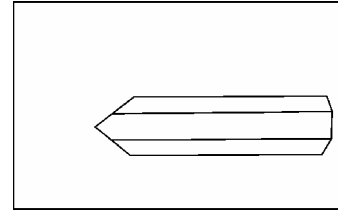

Figure 4.2
- Use an anvil and a hammer to taper the heated end of the rod. The taper should begin on the chipping tip and end about 2" up the rod, as illustrated in Figure 4.2. The end of the tip should be $\frac{3}{16}$ " thick.